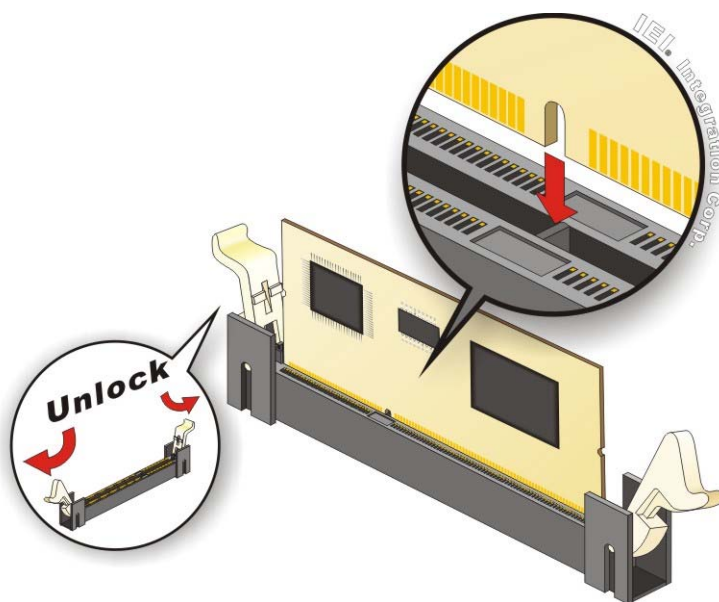

Figure 4-7: iRIS Module Installation
To install the iRIS-2400 module, please follow the steps below and refer to **Figure 4-7**.
- Step 2:** Open the socket handles. Open the two handles outwards as far as they can. See Figure 4-7.
- Step 3:** Align the iRIS-2400 module with the socket. Align the iRIS-2400 module so the notch on the module lines up with the notch on the socket. See Figure 4-7.
- Step 4:** Insert the iRIS-2400 module. Once aligned, press down until the iRIS-2400 module is properly seated. Clip the two handles into place. See Figure 4-7.